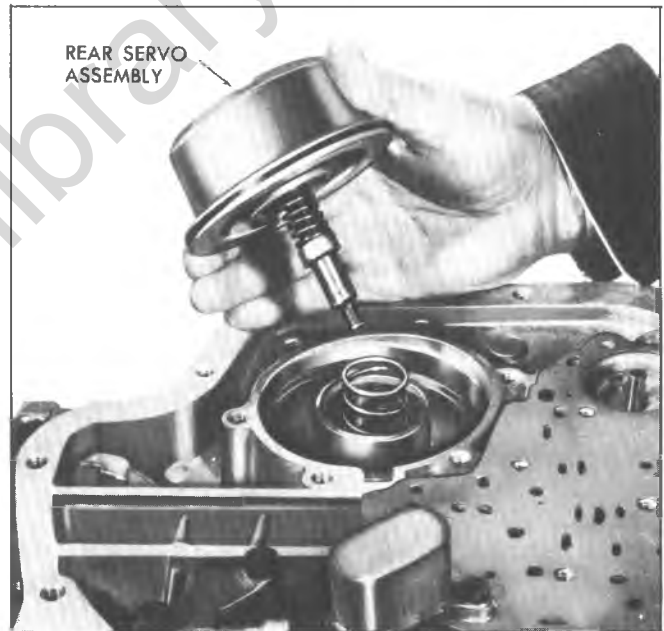

Fig. 12T-Removing Rear Servo Assembly
1. Remove rear servo assembly from case (fig. 12T).